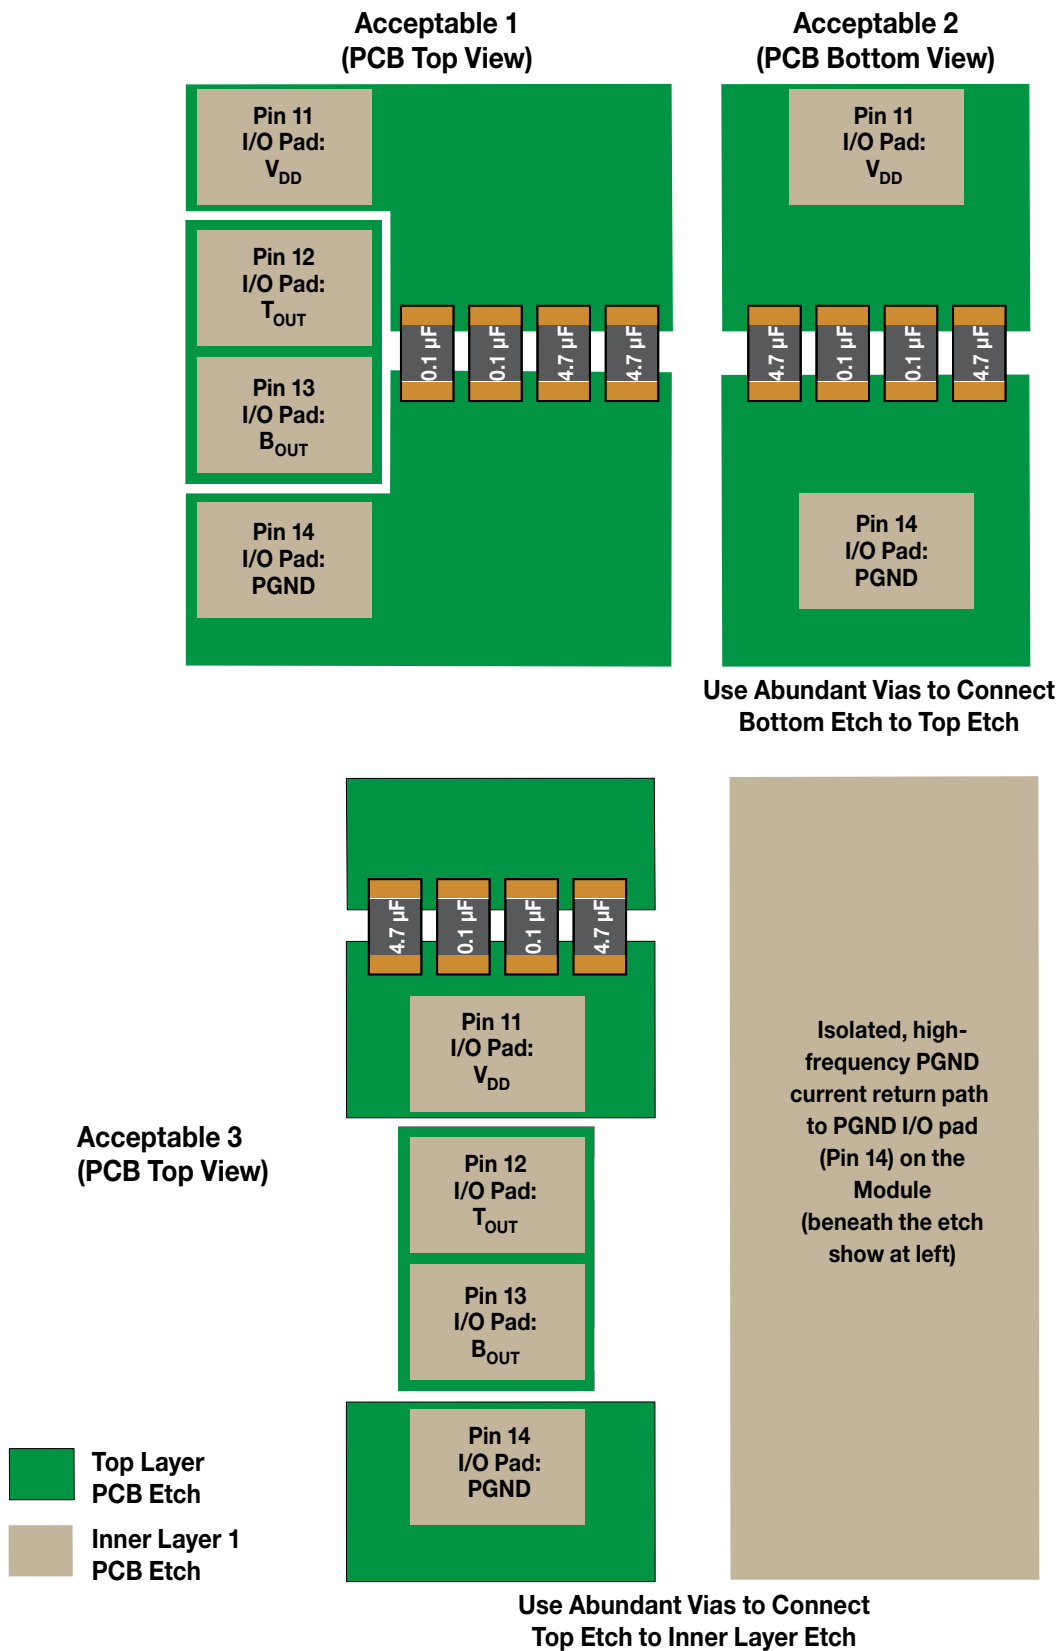

Figure 21. Recommended  $V_{DD}$ -to-PGND Power Supply Bypassing (Not to Scale)
The power supply pins and return pin of the FBS-GAM02-P-C50 require proper high frequency bypassing to one-another in order to prevent harmful switching noise-related spikes from degrading or damaging the internal circuitry in the FBS-GAM02-P-C50 module. The more critical bypassing situation is related to the  $V_{DD}$  supply to PGND (Pin 14), which bears the high rate-of-change voltages and currents associated with the internal eGaN® power switches interacting with a load. It is recommended that a minimum of two (2) 4.7 microfarad ceramic capacitors, one (1) 1.0 microfarad ceramic capacitor and one (1) 0.1 microfarad ceramic capacitor, all with 100  $V_{DC}$  ratings, be connected from  $V_{DD}$  to PGND. All four of these capacitors should be low ESR types, if possible. It is strongly recommended that these capacitors inscribe the smallest possible loop area between  $V_{DD}$  and PGND so as to minimize the inductance related to this loop area. Figure 21 illustrates three instances of recommended and acceptable  $V_{DD}$ -PGND bypassing, as implemented in PCB copper etch. Regardless, different end-use implementations will require different  $V_{DD}$  bypass capacitor placements, and it is strongly recommended that the chosen bypassing scheme be evaluated in hardware for its effectiveness.
Figure 28. Maximum Dead Time ( $t_{dt}$ ) vs. Switching Frequency ( $f_{sw}$ ) vs. Module Case Temperature ( $T_c$ ),  $I_o = 10 \text{ A}$ , Half-Bridge Configuration (Refer to Fig. 21).